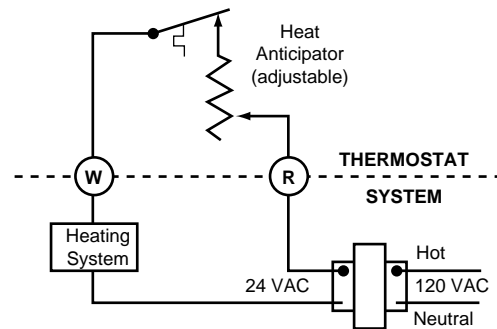

Figure 2. Wiring Diagram
3. Pull wires through the opening in the thermostat base and connect wires beneath the terminal screws (see Fig. 2 & 3).